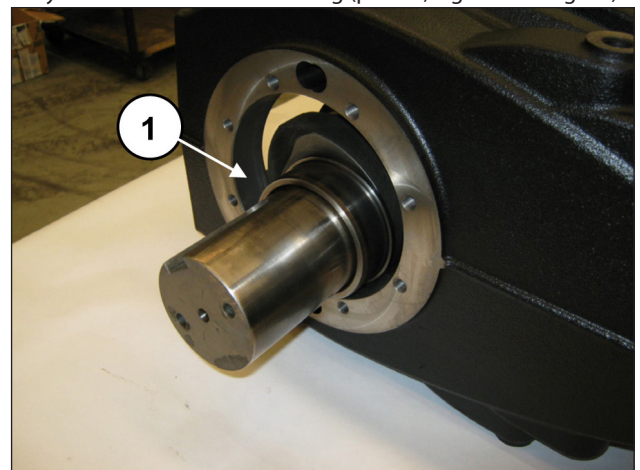
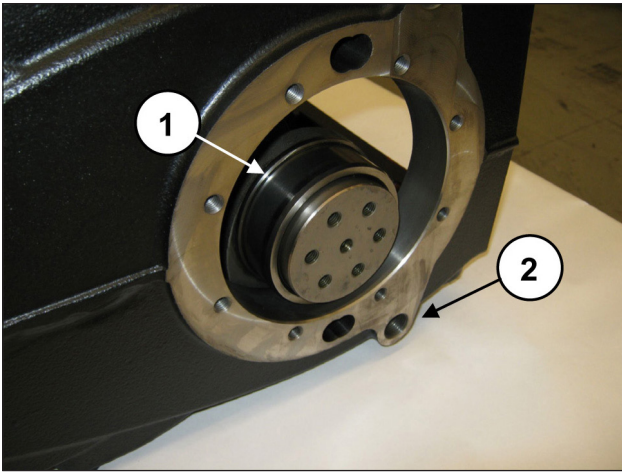

Fig. 49
Fig. 50
**The bend shaft must always be assembled with the PTO on the opposite side with respect to the G1/2" holes for the oil discharge plugs on the pump casing (pos. ②, Fig. 50).**
Fully insert the shaft in the casing (pos. ①, Fig. 49 and Fig. 50).